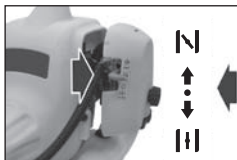

Fig. 10B
2. Place choke in HALF CHOKE " : " position (Fig. 10B).